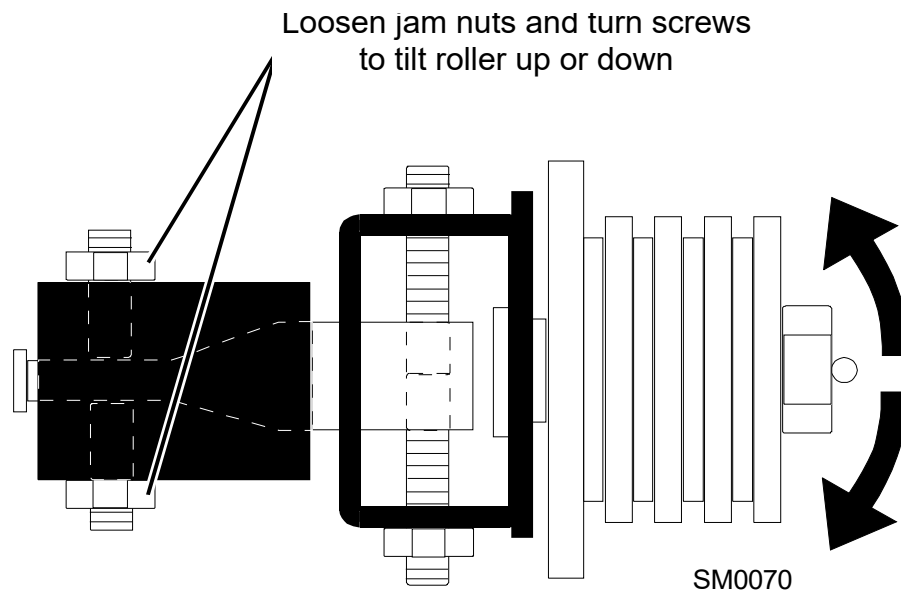

FIG. 5-15
**See Figure 5-15.** Loosen the jam nuts on the top and bottom vertical tilt adjustment screws. To tilt the roller up, loosen the bottom screw and tighten the top screw. To tilt the roller down, loosen the top